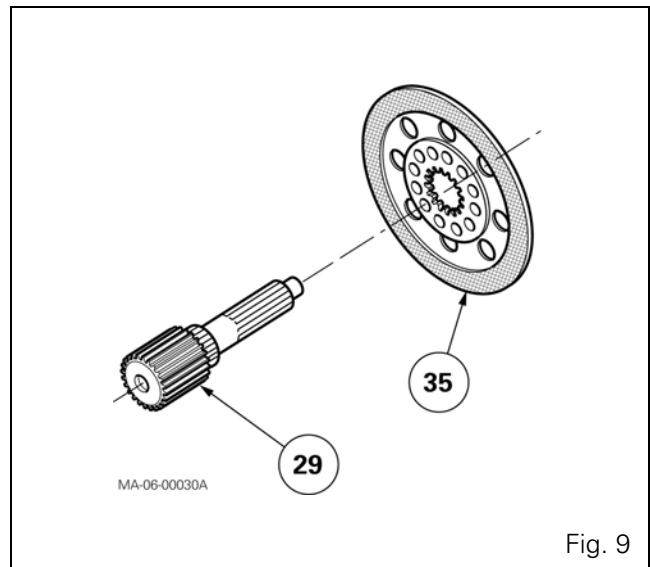

Fig. 9
17. Check that the disc (35) slides freely on the sun gear (29) (Fig. 9).
18. Refit the pin (1), the sun gear (29) and the disc (35).